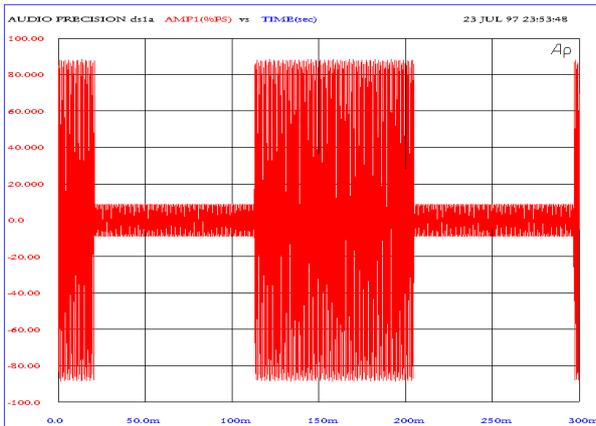

Fig. 1
**Fig. 1** Bypass, this is how the 50% duty cycle sinewave burst looks like. X-axis shows time in milliseconds, Y-axis shows linear level in percentage of full scale. Just like a scope.